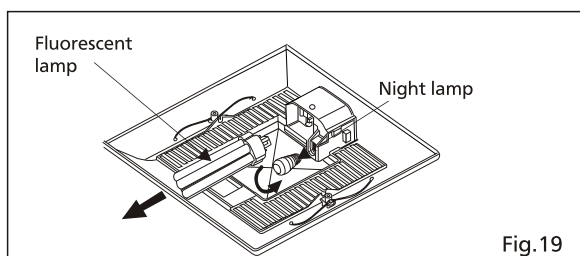

Fig.19
3. Replace the fluorescent lamp (Panasonic FHT32E35 32W) and/or the 4W night lamp. (Fig.19)